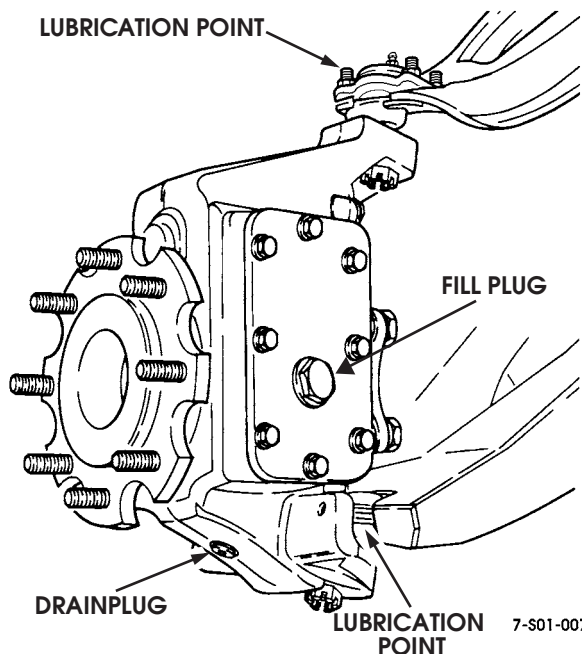

Figure 1-25: Geared Hub Fill/Drain Plug Locations
- Check axle and hub lubricant condition and level every 6,000 mi (9,700 km) or semiannually, whichever occurs first. Geared hub level should be within 1/2 in. (12.7 mm) of fill plug opening when lubricant is cold, or to plug level when hot. Axle level should be within 1/4 in. (6.4 mm) of fill plug opening when lubricant is cold, or to plug level when hot (Figures 1-25 and 1-26).